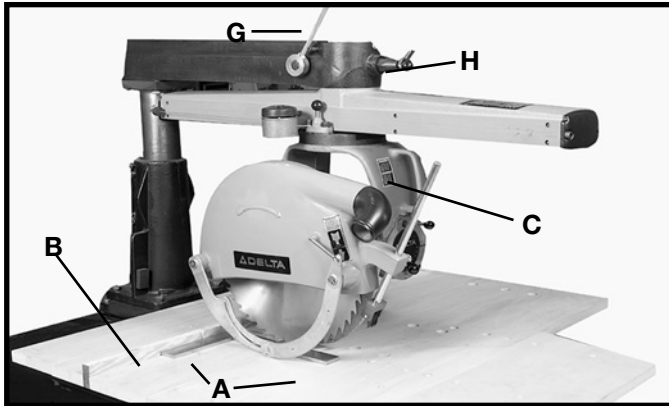
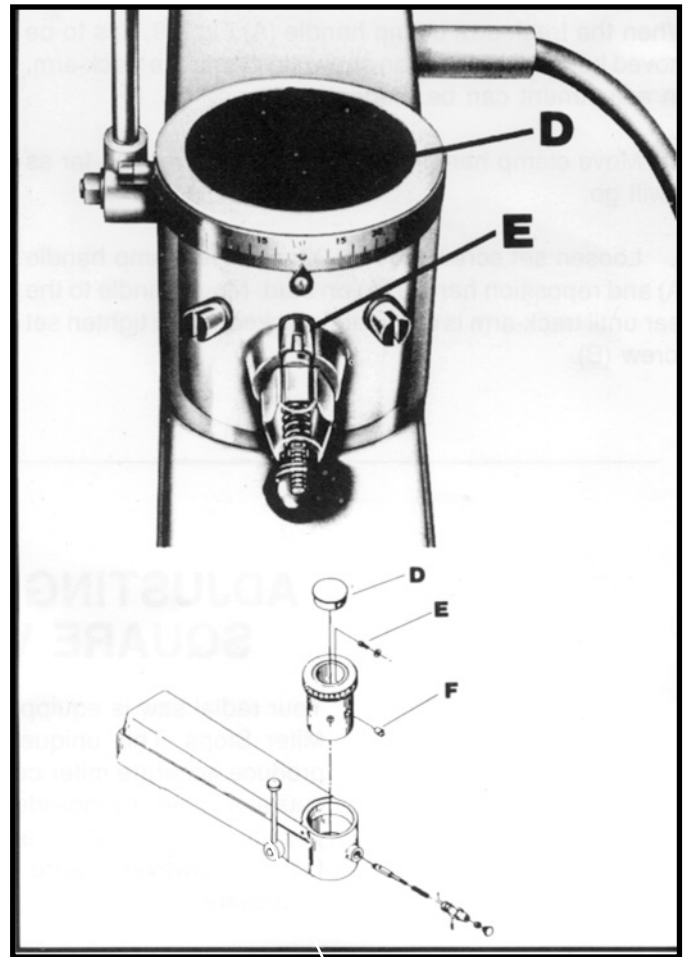

Fig. 40
Fig. 41
1. Place a square (A) Fig. 40 against fence (B), and lower cuttinghead (C) so that saw blade just clears table top.
2. Pull cuttinghead (C) Fig. 40, along square (A). If saw blade does not travel parallel to the square, the following adjustment is necessary.
3. Remove cover plate (D) Fig. 41.
4. Locate center cap screw (E) Fig. 41 inside pivot column and loosen slightly. Tap center cap screw (E) sharply with a block of wood or insert a thin wooden wedge inside the column to loosen the tapered plug (F) Fig. 41 that is attached to the cap screw (E). It is very important that the tapered plug (F) is loosened before any further adjustment is made.
5. Loosen clamp handle (G) Fig. 40.
6. Using wrench on hex nut (H) Fig. 40, turn slightly to one side.
7. When saw blade tracks evenly against steel square, tighten clamp handle (G) Fig. 40 and center cap screw (E) Fig. 41.
9. Replace cover plate (D) Fig. 41.